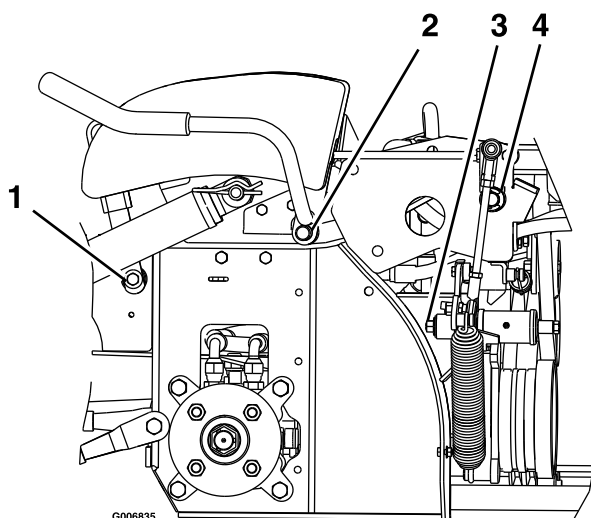

Figure 8
2. Lubricate bronze bushings on brake handle pivot with a spray type lubricant or light oil (see Figure 8).